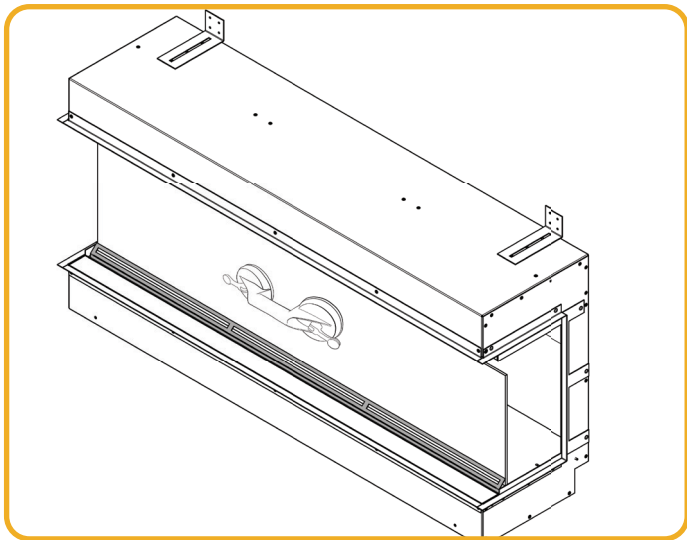

Figure.9.1 | Position the bottom edge of the effect glass
- To install the effect glass place the bottom edge carefully in the correct position. See Figure 9.1